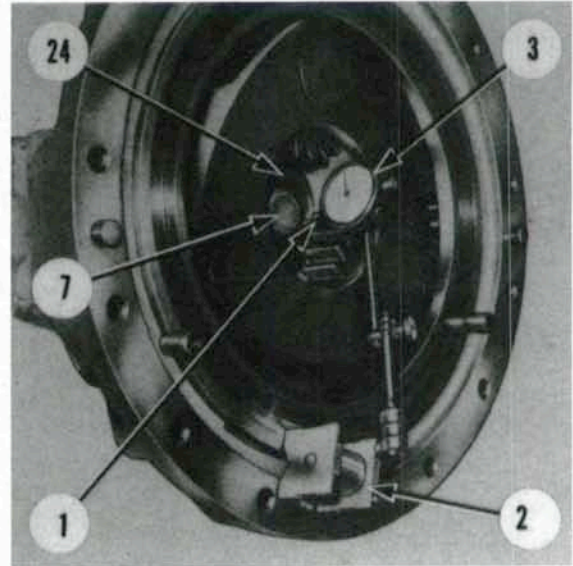

Fig. 240—Axle shaft end play can be checked using a dial indicator as shown.
Adjust axle shaft bearing preload as follows: Install axle retaining cap screw and washer with two of the thickest shims (4) available. Tighten cap screw to a torque of 440 ft.-lbs. (600 N·m). Use a dial indicator with plunger positioned against head of retaining cap screw to measure axle shaft end play as shown in Fig. 240. Remove cap screw, retainer and shims, and use a micrometer to measure shim thickness. Subtract measured end play plus an additional 0.006 inch (0.15 mm) from shim thickness. The resulting figure is thickness of spacers to be installed to provide correct bearing preload.